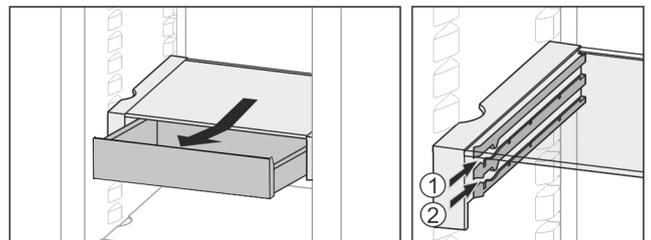

Fig. 20
- ▶ Slide in at any height Fig. 20 (1) or Fig. 20 (2).